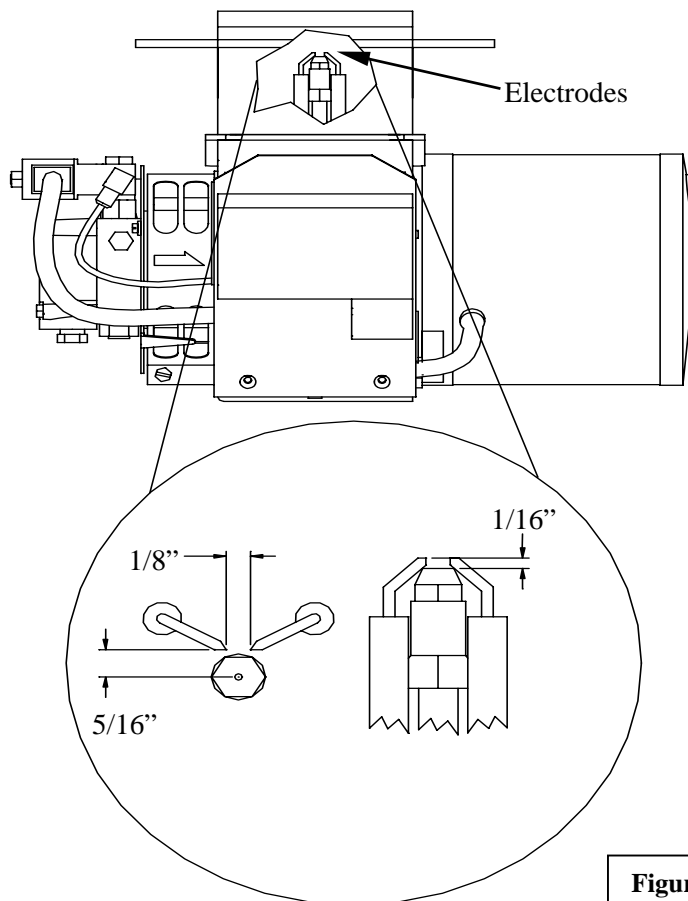

Figure 24
4) Reset the spacing as shown below in Figure 24.